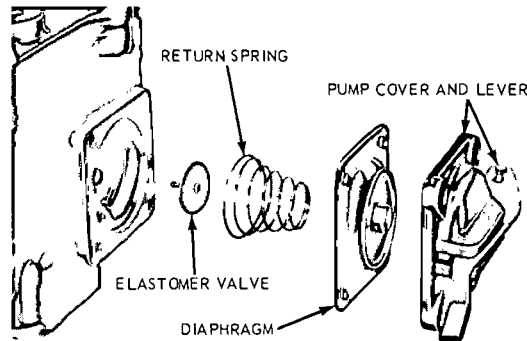

FIG. 17—Accelerating Pump and Fuel Bowl Vent Valve Assembly
5. Remove the accelerating pump cover retaining screws. Remove the accelerating pump cover, diaphragm assembly, vent valve (if so equipped) and spring (Fig. 17).
8. Install the accelerating pump diaphragm return spring on the boss on the chamber (Fig. 17). Insert the diaphragm assembly in the cover and place the cover and diaphragm assembly into position on the main body. Install the cover screws. (If equipped with a vent valve, install the two cover screws that do not retain the vent valve bracket).
Insert a new plug in the vent rod. Install the vent rod spring on the vent rod (Fig. 17). Install the vent rod on the bracket and position the spring loop on the vent rod. Install the vent rod and bracket assembly on the accelerating pump and tighten the retaining screws.